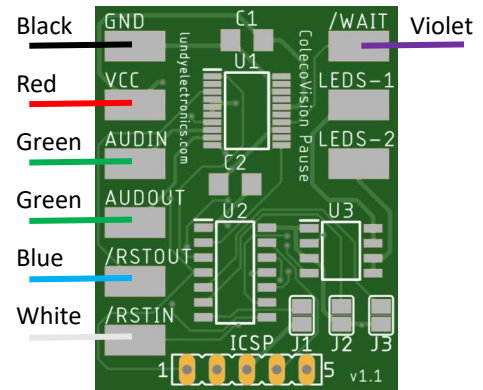

Figure 8a: Main wiring harness diagram
Step 3: Flip the ColecoVision PCB to show the top side on the PCB. Cleanly trim, strip, and solder main wiring harness wires to the Pause Mod PCB as follows. See **Figures 8a and 8b**.
(Note: Picture may vary depending on PCB version. Reference Figure 8a for current version.)